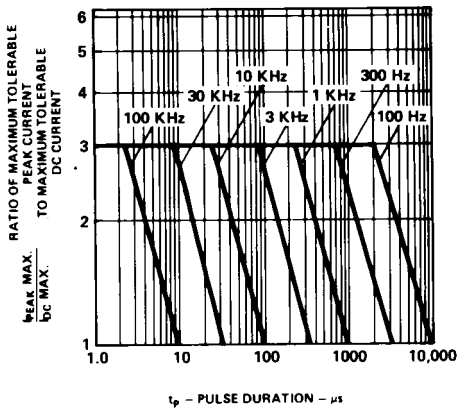

Figure 2. Maximum tolerable peak current vs. pulse duration. ($I_{DC\text{ MAX}}$ as per MAX ratings).
- See Figure 2 to establish pulsed operating conditions.